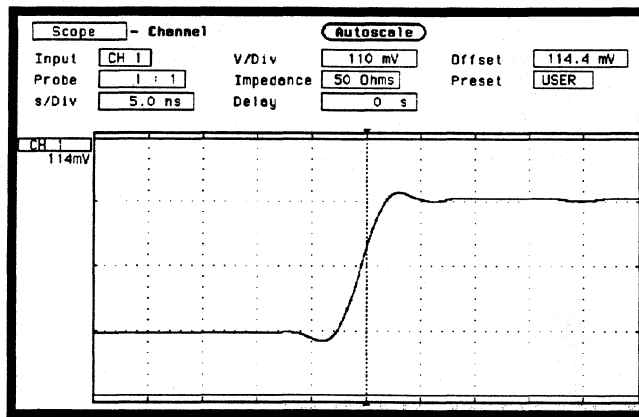

Figure 4-4. Channel Menu
10. Press **FORMAT/CHAN** and adjust **V/Div** and **Offset** to obtain a waveform as shown in figure 4-4.